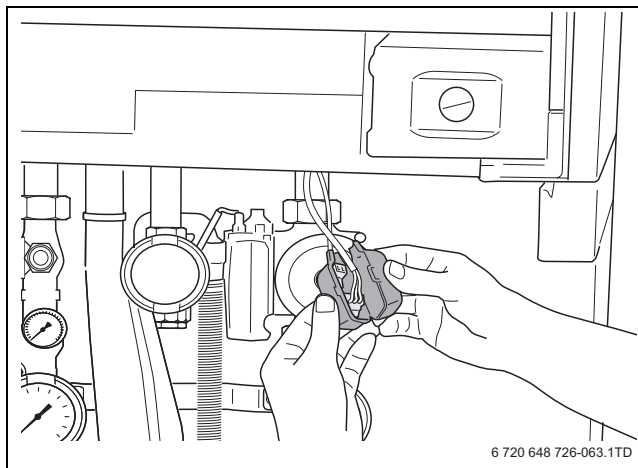

Fig. 63 Removing the covers
- ▶ Connect the free 230V AC mains cable (→ fig. 63) to the module [1]. If more modules are used, the 230 VAC supply for the second module can be taken from the first module using the cable enclosed with the module.